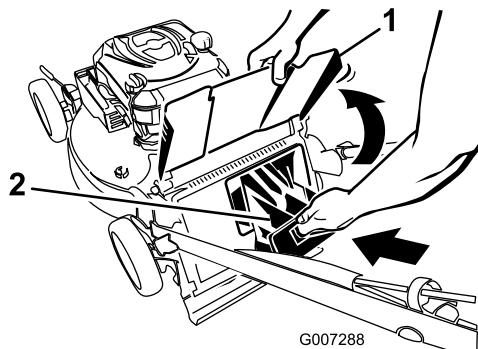

Figure 19
**Important:** Ensure that the rear-discharge plug is locked in place. To lock the plug: Raise the discharge deflector (Figure 19), firmly push the plug in until it snaps into place behind the tabs, and rotate the lever on the plug to the left (Figure 20).